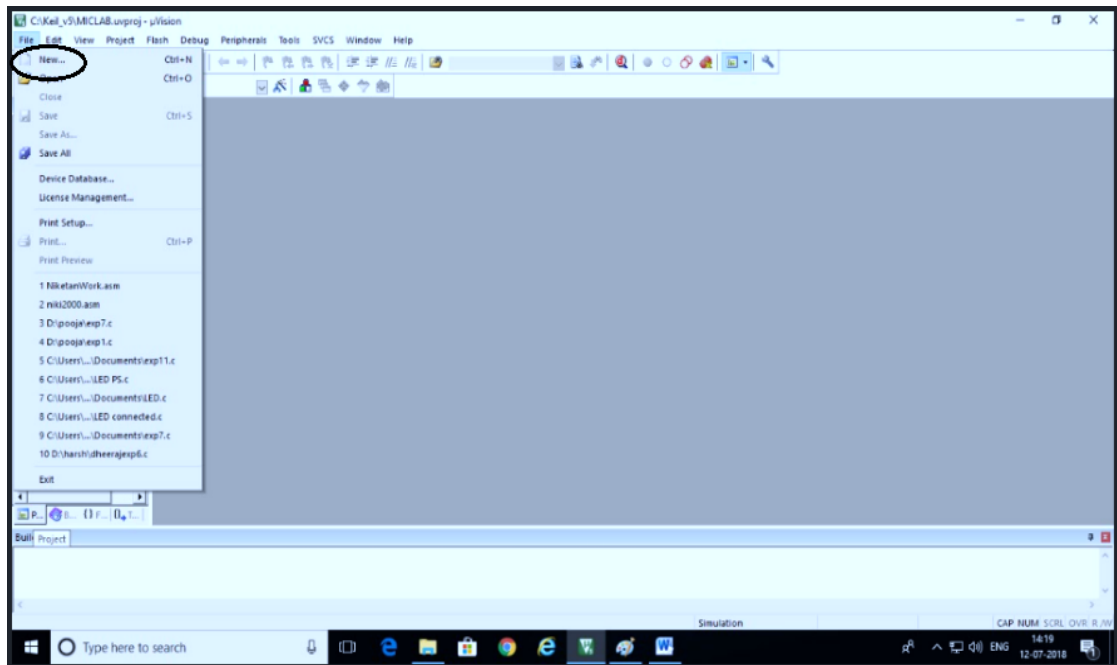

Figure 4.4: Creating new file Window
6. Click file pull down menu. Select new, a text editor window will open. Save this file in a same folder where project was stored. Give extension as .C. (refer Figure 4.4)